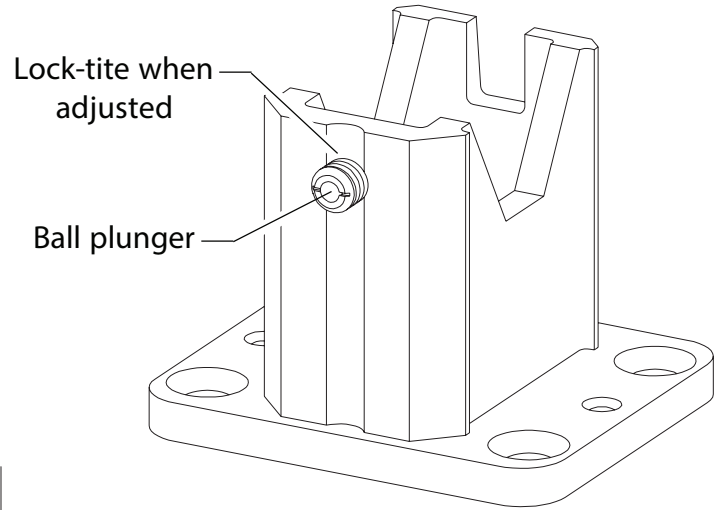

Figure 1
1. Adjust ball plunger for top and bottom fitting. Adjust ball plunger out until ball is compressed when fitting is engaged with mullion. Once adjusted properly, lock-tite in place. See Figure 1.